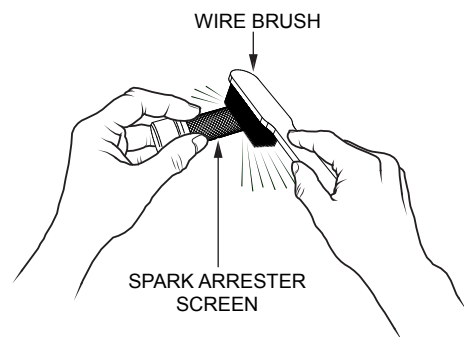

Figure 38. Cleaning the Spark Arrester
3. Carefully remove carbon deposits from the spark arrester screen (Figure 38) with a wire brush.